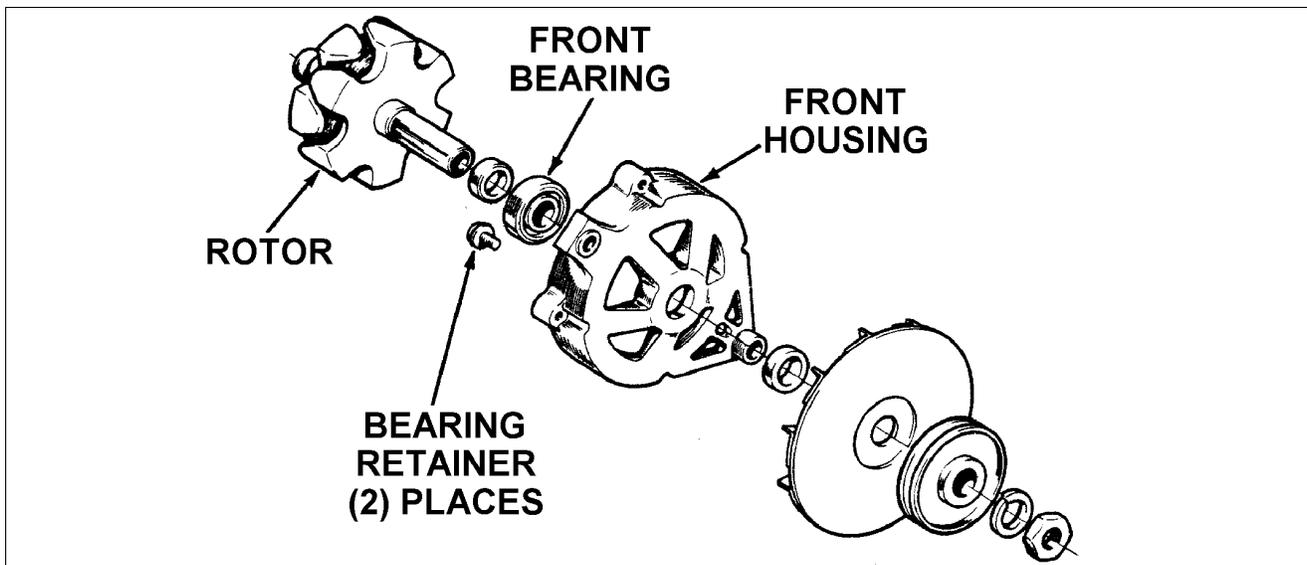

Figure 24-12. Front Housing Components
- (10) Remove front bearing from housing by removing bearing retainer screws. The bearing is normally a slip-fit. If stuck, support housing and press bearing from the housing. (Refer to Figure 24-12)